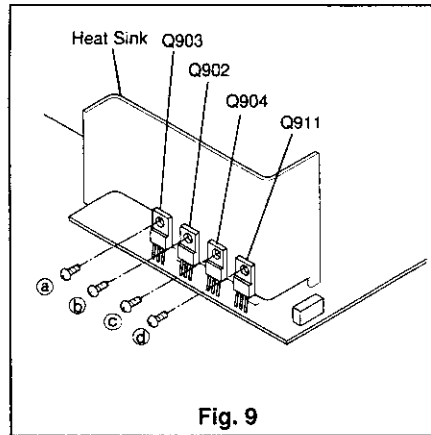

Fig. 9
- ① Disconnect the power plug.
- ② Remove the four screws (a, b, c and d: 669D222090) shown in Fig. 9.